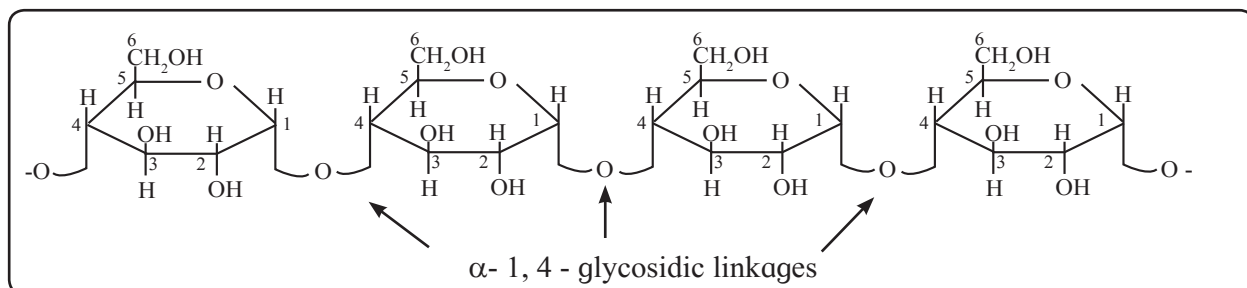
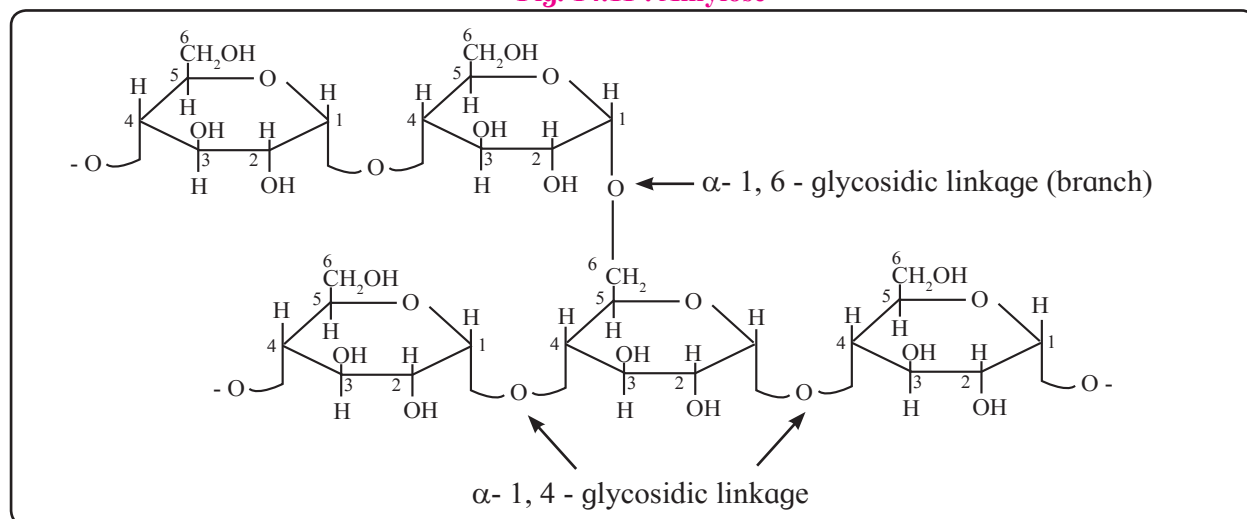

Fig. 14.11 : Amylose
Fig. 14.12 : Amylopectin
a. Starch : Starch is a polymer of α -D-glucose. Starch has two components, namely, **amylose** (15-20%) and **amylopectin** (80-85%). Amylose is soluble in water and forms blue coloured complex with iodine. It contains 200-1000 α -glucose units linked by α -1,4- glycosidic linkages giving rise to unbranched chain of variable length (Fig. 14.11). Amylopectin is water insoluble component of starch which forms blue-violet coloured complex with iodine. It is a branched chain polysaccharide. In amylopectin, chains are formed by α -1,4- glycosidic linkages between α -glucose units, whereas branches are formed by α -1,6- glycosidic linkages (Fig. 14.12).